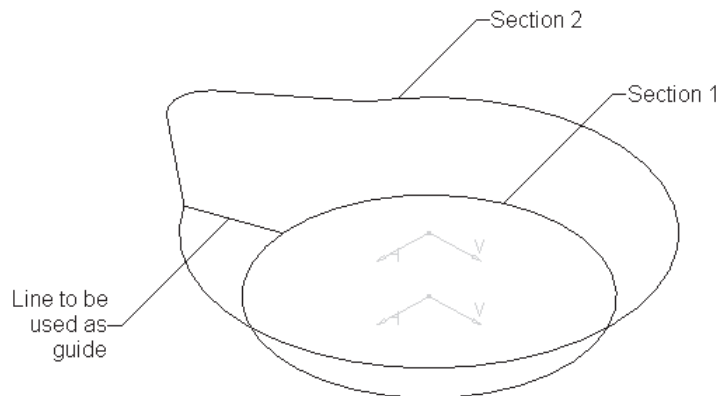

Figure 10-52 The line created between two points on the sections
6. Choose the **Line** button from the **Wireframe** toolbar; the **Line Definition** dialog box is displayed. Create the line by selecting the two points, as shown in Figure 10-52.
2. Select section 1, refer to Figure 10-52. The name of the selected entity is displayed in the selection area of the **Multi-Sections Surface Definition** dialog box. By default, a closing point is created. Move the cursor on the text in the **Closing Point** column and right-click to invoke the contextual menu.
6. Next, click in the **Guide** selection area to invoke the selection tool; you are prompted to select a curve. Select the guide curve shown in Figure 10-52.